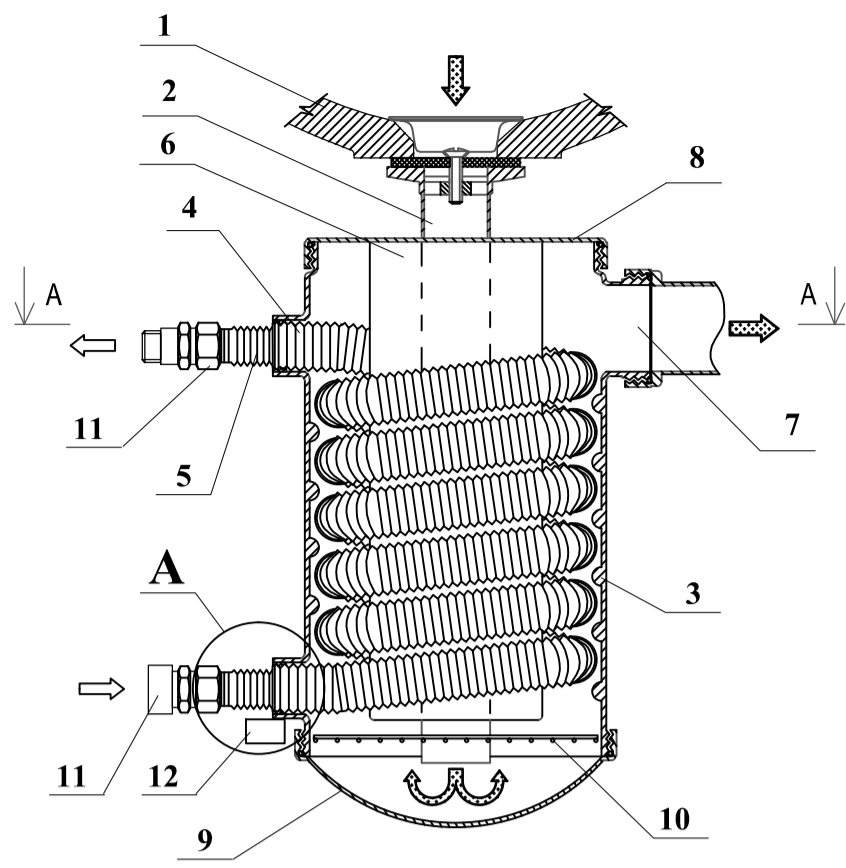

Fig.1
- discharge device (siphon) with waste heat of the waste water of the wash basin (sink), depicted in **Fig. 1 and 2**;